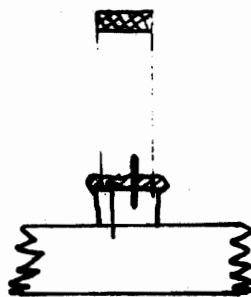
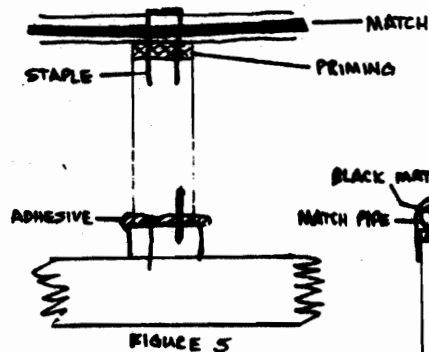
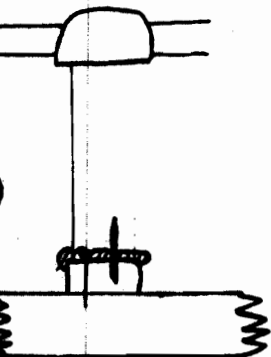

FIGURE 4
FIGURE 5
FIGURE 6
**Manipulation and Procedure:** When it has been decided what colors are to be used for the various parts of the design, take a handful of lances of the desired color and dip their bottoms into Prof. Pyro. Ad. to a depth of about 1/8" and press one onto each of the rails until they are attached firmly to the rattan or stick forming the design (Figure 4). When the Adhesive has hardened, the frame is ready for matching. Take a length of quick match and, beginning at the upper left corner of the frame, staple it from one lance to another until the entire frame is covered, following the outline of the design as much as possible (Figure 5). The special staple guns available at Westech are ideal for this operation. In the past, it was necessary to pin the match to the lance and then pierce it with an awl. These staple guns, specially made for lance work, do both these operations at once and at a much faster rate. When the end of a length of match is reached, splice another to it, baring about 2" of the new length and slipping this bare end into the pipe of the preceding. It may be necessary to slit the pipe to accommodate the spliced piece. Secure it by wiring and pasting the joint or using masking tape. Now paste a strip about an inch wide (or use masking tape) over the top of the lance (Figures 6 and 7). When the design is large enough that it requires more than one frame, leave about 2' of match projecting from the lower right corner of each frame so that each can be connected to the one next to it in the final assembly. Also, on one of the bottom frames, leave a leader of match long enough to light the device.